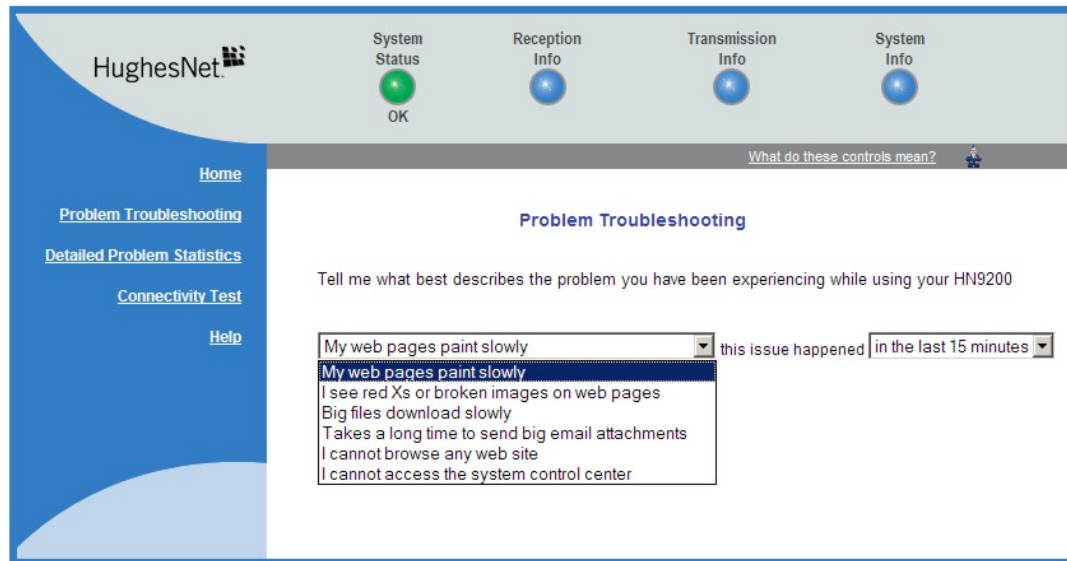

Figure 69: Problem Troubleshooting page
1. Click the **Problem Troubleshooting** link in the left panel of any System Control Center page—except, on the System Control Center home page, the **Problem Troubleshooting** link is located below the DIAGNOSTIC UTILITIES heading. The Problem Troubleshooting page opens (*Figure 69: Problem Troubleshooting page on page 86*).